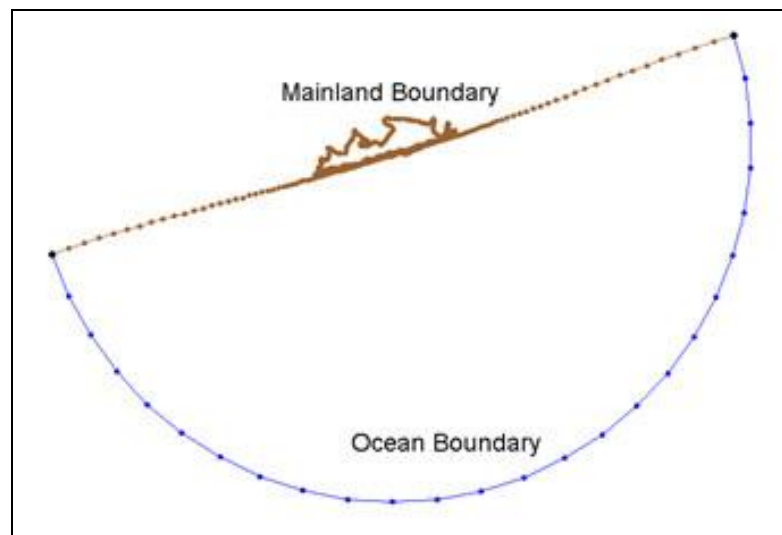

Figure 2 Feature arcs after boundary types have been assigned
2. Using the **Select Feature Arc**  tool, double-click the arc representing the ocean boundary as shown in Figure 2. The *ADCIRC Linear BC* dialog will appear.
5. Using the **Select Feature Arc**  tool, double-click the arc representing the mainland boundary as shown in Figure 2 to open the *ADCIRC Linear BC* dialog.